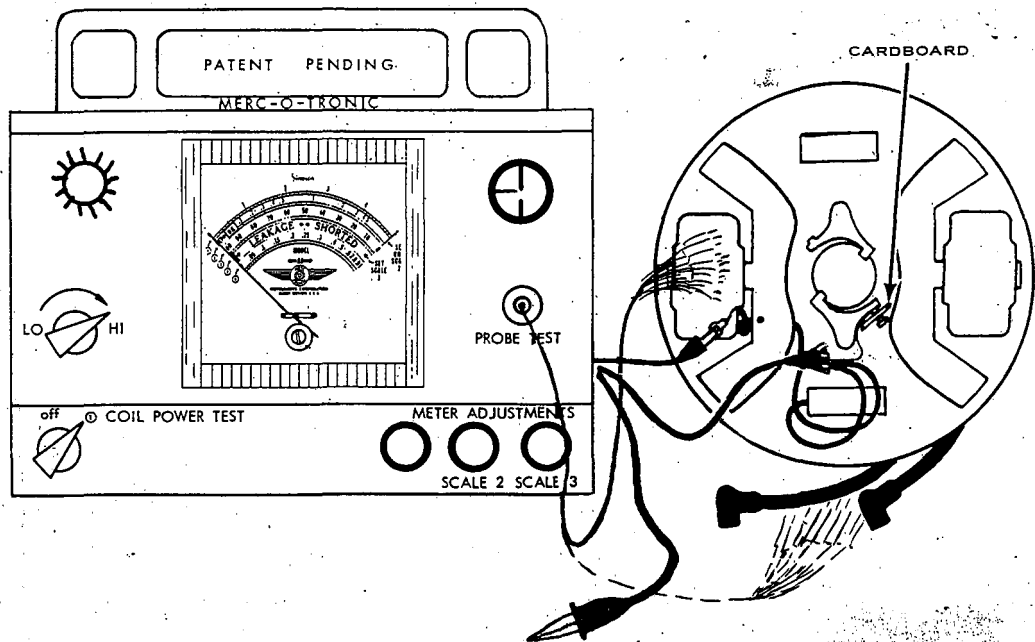

Figure 8
1. Remove large red test lead from coil secondary, (High Tension lead) see illustration Fig. 8.